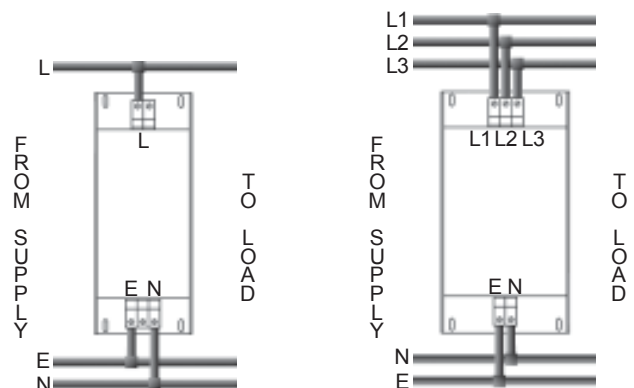

Figure 4: Wiring for single phase & three phase installations
3.1 Wiring: Surge diverters are connected in parallel (Figure 4).